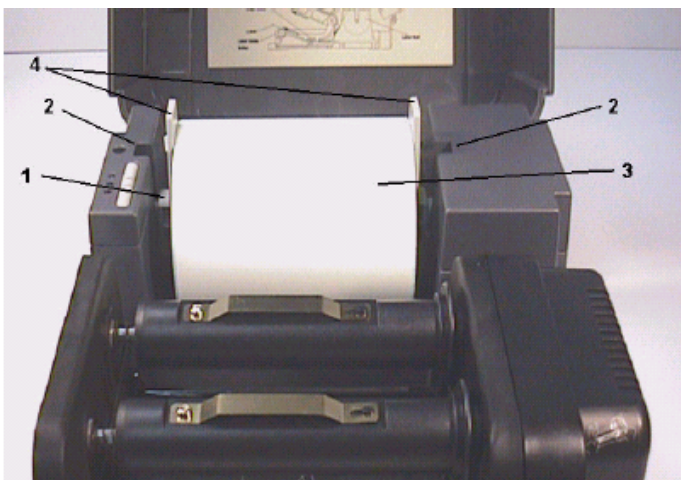

Figure 8. Inserting label supply roll into label roll mount
- Disengage the printer carriage by pulling the grey printer carriage release lever on the left side of the platen (*see figure 8*).